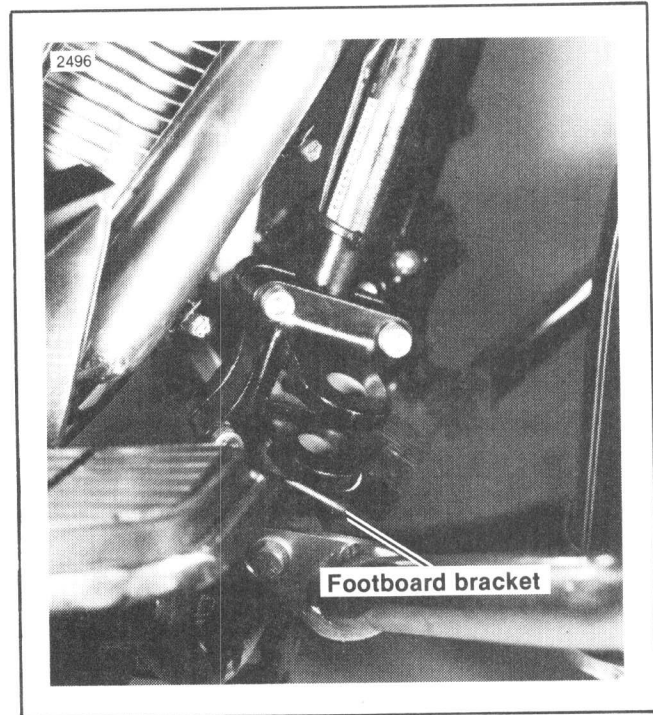
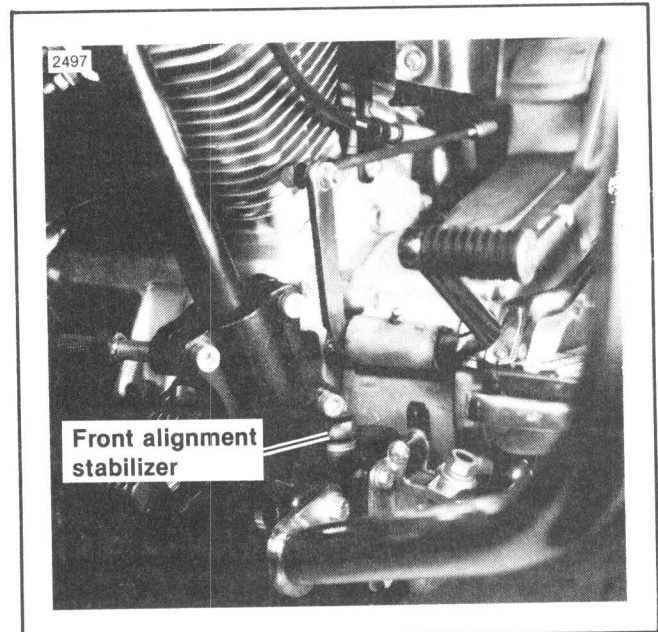

Figure 5-5. Lower Front Mount (Right Side)
Figure 5-6. Lower Front Mount (Left Side)
2. See Figure 5-5 and 5-6. Thread the stabilizer adjuster (26) into the right and left stabilizers (3 & 4). The stabilizers are marked with an "R" and "L" to indicate right and left, respectively. The right stabilizer has right hand threads, the left, left hand threads.
5. Position the lower front mount (2) on the right frame downtube opposite the right stabilizer and insert four bolts (14) thru mount and stabilizer.
6. Install four locknuts (16) and finger tighten.
7. Install backing plate (5) on left stabilizer with four bolts (15) and four locknuts (16). Tighten finger tight.
8. See Figure 5-5. Check clearance between lower front mount (2) and footboard bracket and front exhaust pipe. Engine may move approximately 3/8 in.
9. Position the entire front mount assembly so the clearance between the lower front mount (2) and footboard bracket is 1/4 - 1/2 in.
10. See Figure 5-6. Check clearance between backing plate (5) and front alignment stabilizer and check that alternator to regulator wires are not pinched in left stabilizer (4).